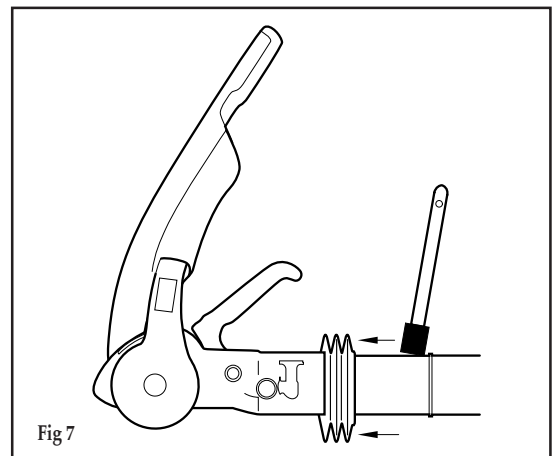

Fig 7
- Remove the locking bolt socket key. (fig 7).